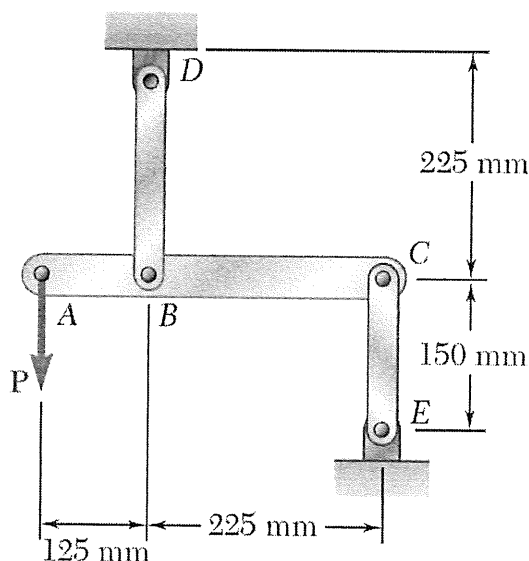

Figure 1
- b) Link BD is made of brass ($E = 105\text{ GPa}$) and has cross-sectional area of 240mm^2 . Link CE is made of Aluminium ($E = 72\text{ GPa}$) and has cross-sectional area of 300mm^2 . Knowing that they support rigid member ABC , and the load P is equal to 40 k as shown in Figure 1: -